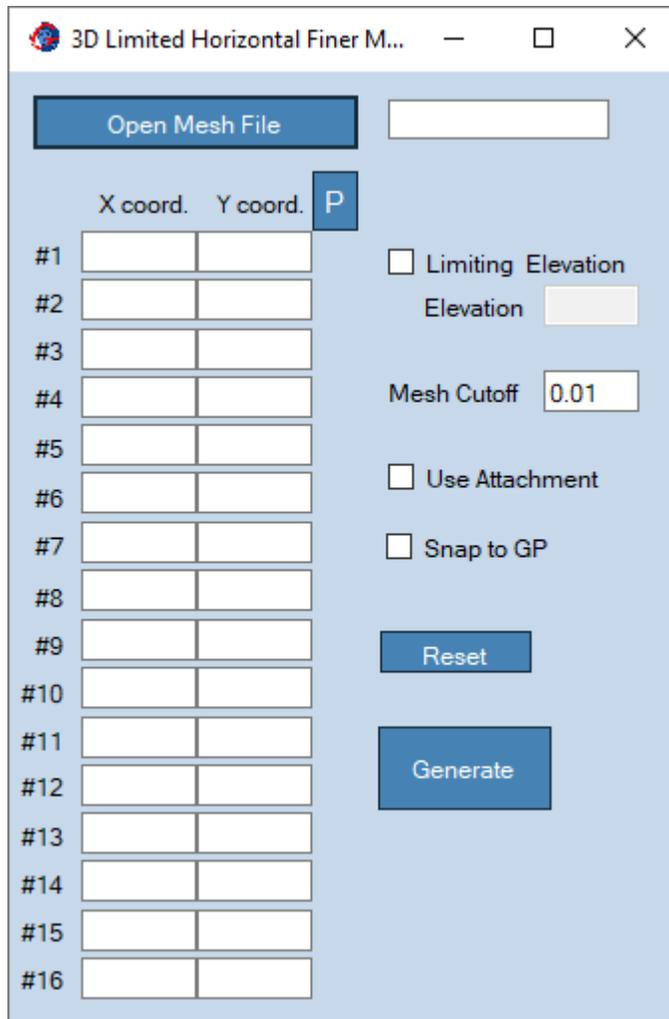

Figure 29: 3D Surfaces Menu – Horizontal Finer Mesh.
- **Meshing Menu, Horizontal Finer Mesh:** This menu option (shown in Figure 29) is very similar to the previous one, but allows for horizontal orientation of the internal planes. It is useful when a portion of the mesh wants to be refined and it need to make it compatible with construction sequence. In this way, the new finer mesh can be grouped with nearby mesh and then activated them all together. The new smaller elements have a quarter size of the source elements. This option also does not require the execution of *3D Meshing* after generation.